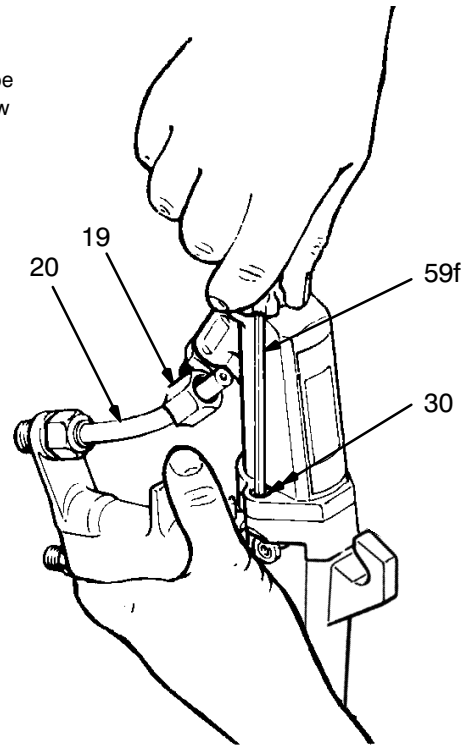
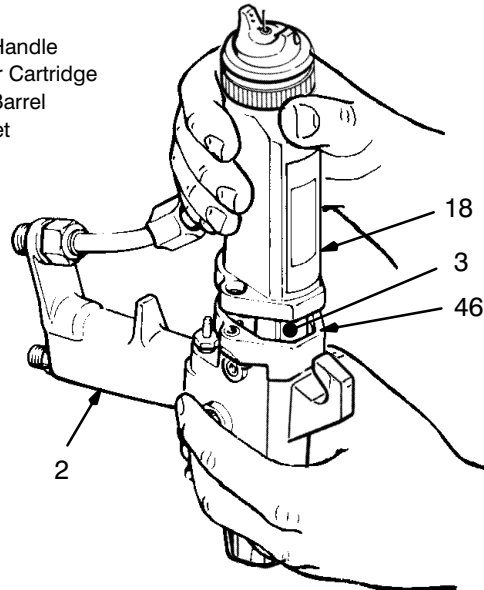

Fig 12
Fig 13
1. Unscrew the nut (19) at the barrel fluid inlet. See Fig 12.
2. Pull the fluid tube (20) out of the fluid inlet.
4. Remove the ES indicator lights from the socket head capscrews (30).
5. Using the wrench (59f) supplied, loosen and remove the two socket head capscrews (30) from the gun.
6. Hold the gun handle (2) with one hand and pull straight up to remove the gun barrel (18). See Fig 13.
1. Be sure the gasket (46) is in place. Replace if damaged. Place the barrel over the power cartridge (3) and onto the gun handle (2). See Fig 13.
2. Install the two socket head capscrews (30) and tighten with the wrench (59f) supplied. See Fig 12.
3. Snap the ES indicator lights in place over the socket head capscrews (30).
4. Insert the fluid tube (20) into the fluid inlet of the gun barrel and tighten the nut (19).